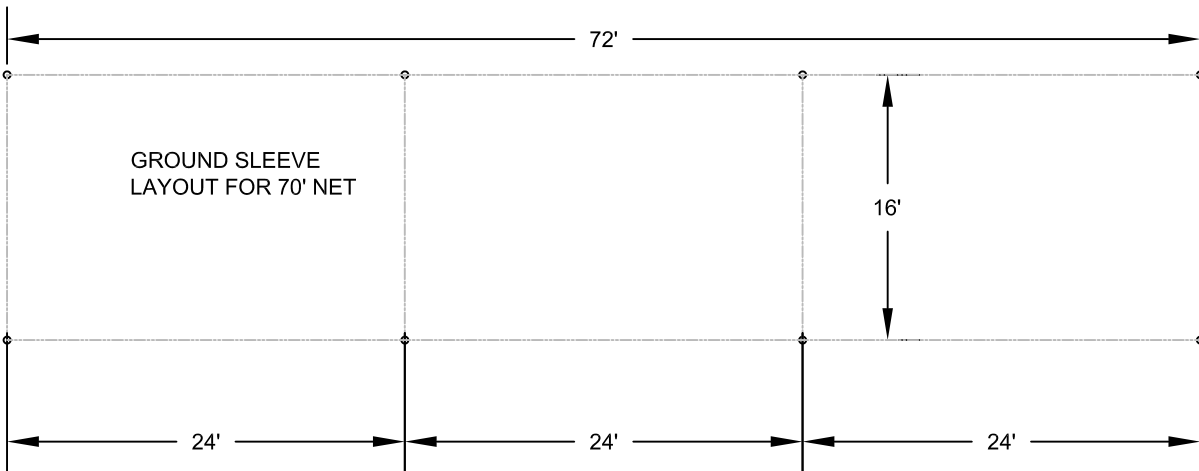
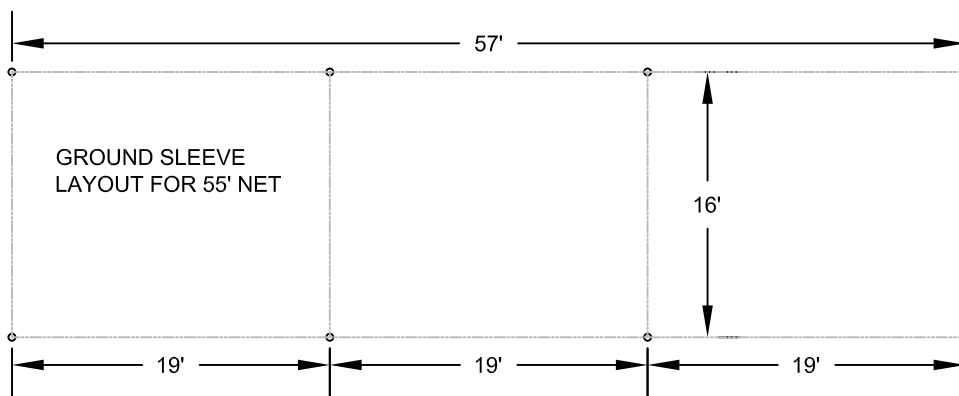

Figure 1
Figure 2
2. Dig holes 30" deep and approximately 15" diameter. See **figure 1** for a 70' net or **figure 2** for a 55' net.
- STEP 1)** Dig 8 holes 30" deep and approximately 15" diameter. **See figure 1.**